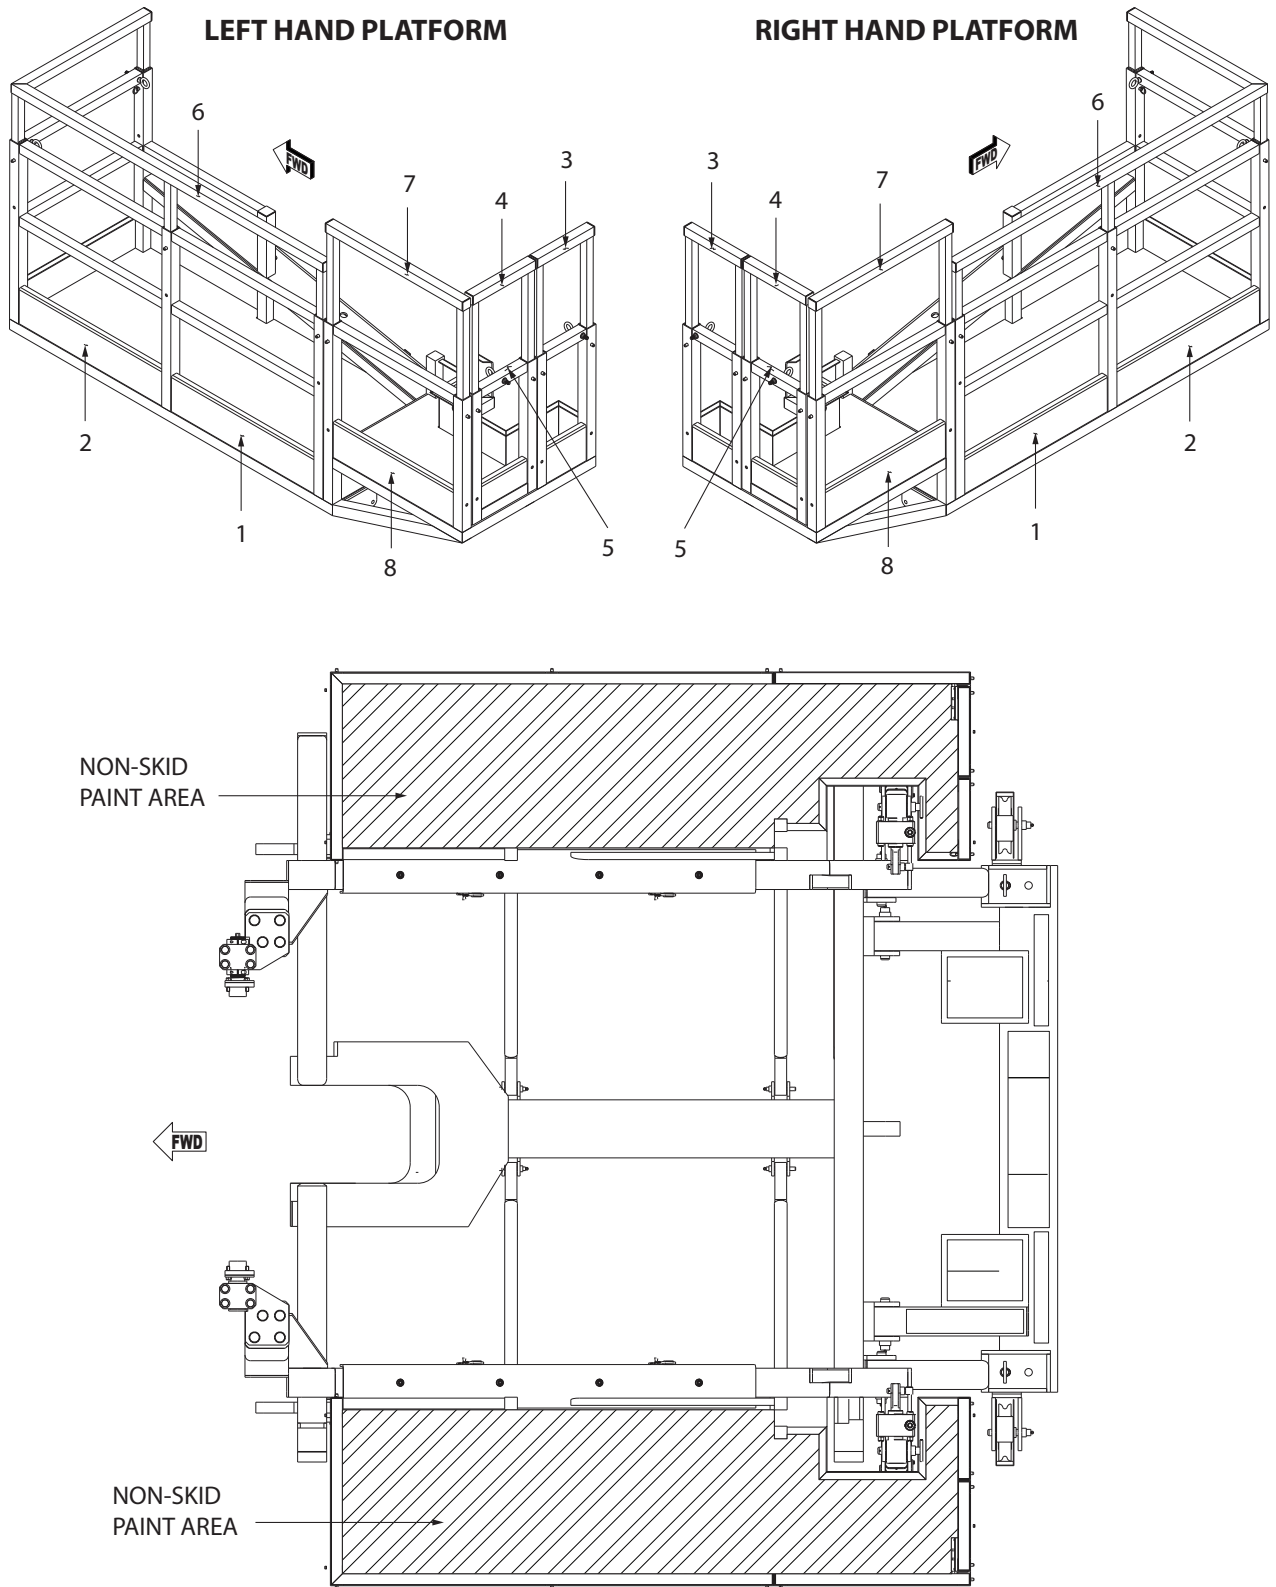

Figure 9.2.6-1
9.2.6 Safety Kit Stencils and Non-Skid Tape and Paint (Figures 9.2.6-1)